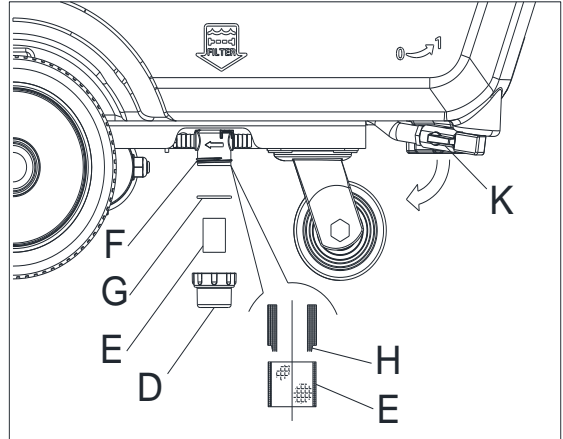

Figure 23
3. Empty the solution tank or turn off the tap (K, Figure 23)
4. Remove the transparent cover (D), then remove the filter strainer (E). Clean and install them on the support (F).